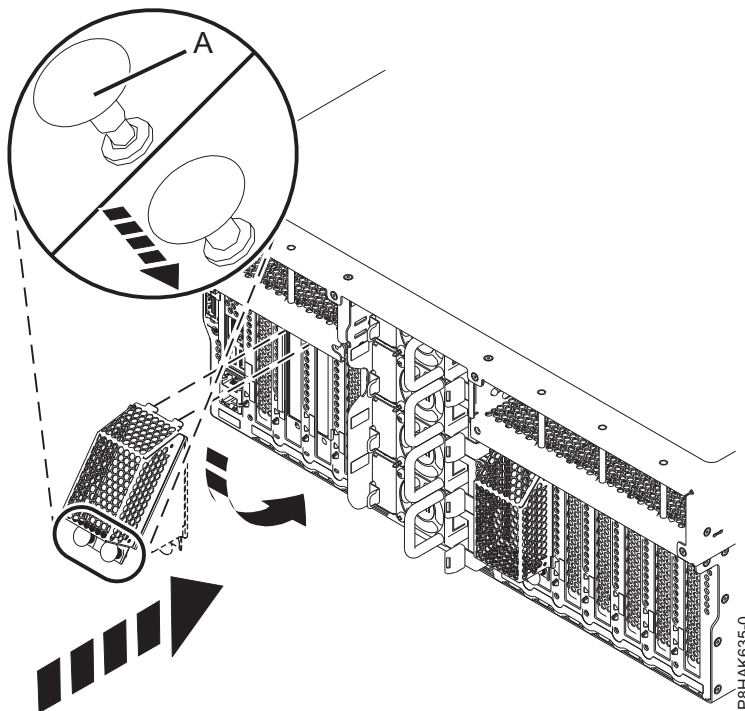

Figure 10. Attaching the protective shield to the GPU adapter
- a. If the locking button (A) is not already in the open position, pull out the locking button (A) in to the open position. See Figure 10.
- c. Press the locking button (A) in the direction that is shown in Figure 10 to lock the shield in place.